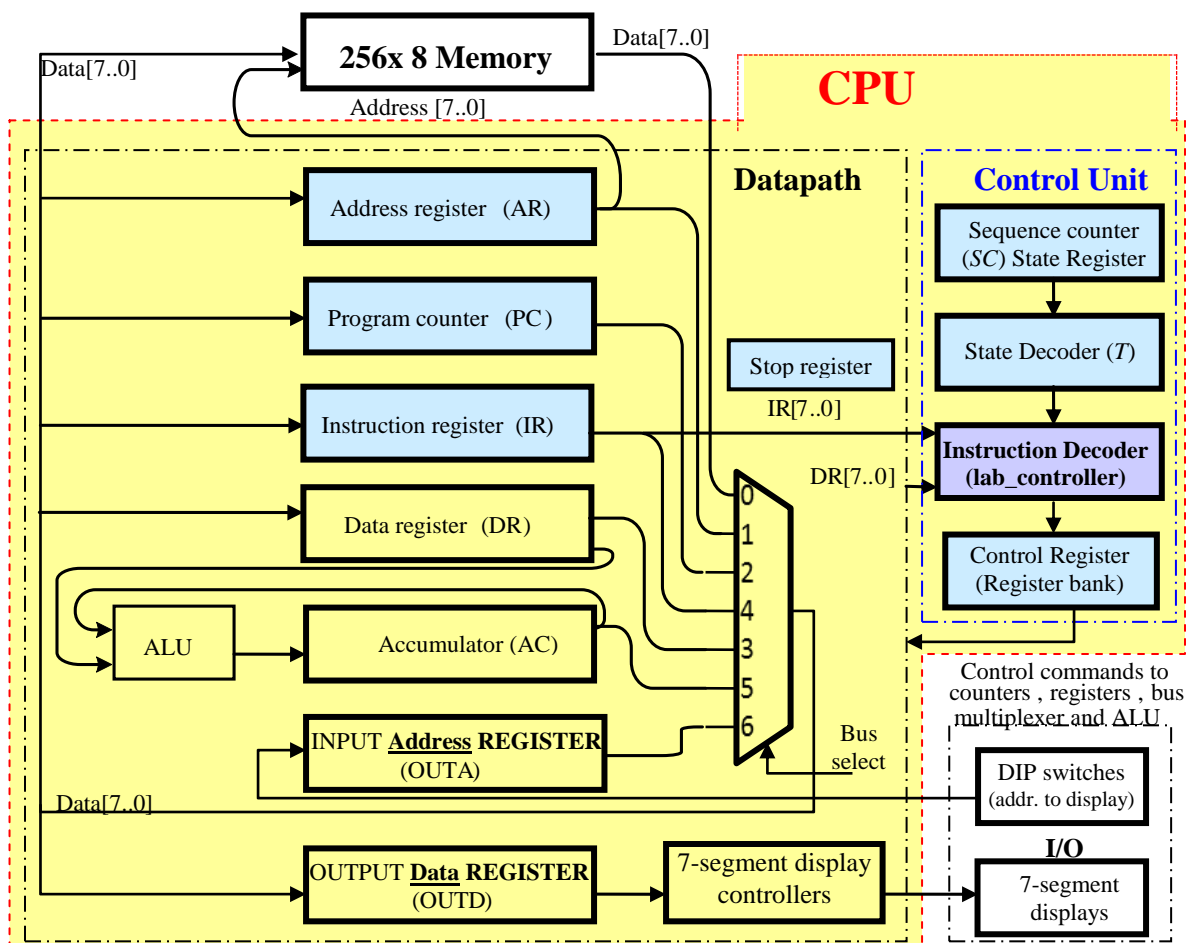

Figure 1: Computer block diagram
The block diagram of your computer is presented in Figure 1. The *.bdf* files of all the component blocks, except the *Instruction Decoder* (*lab\_controller* of CU), will be provided. The *Control Unit* functions in accord with a time sequence which is generated by the sequence counter (SC) that plays the role of *FSM state register*. The SC initial state is 0; it restarts counting from 0 at the beginning of each instruction of a program and it is reset to 0 once that instruction is finished. A decoder converts the 4-bit output of the SC into time-signals, distinct for each possible output (for example, when the SC output is 0010, then the  $T_2$  output of the decoder will go high, if not, it will remain low for any other combination); this combination of the SC and its decoder implement a *One-hot encoded state register*. The *control commands* for the Datapath are synthesized by the *Instruction Decoder* as (FSM output) functions in terms of the contents of the IR, DR and other signals from the Datapath; a set of gates (AND, OR, and NOT) forms the *Instruction Decoder*. As some *CU* outputs are of Mealy type, a *bank of buffer registers* (*Control Register*) is used to insure a duration of one clock period for the *control commands* that are generated by the *CU*, and to synchronize them with the system clock.